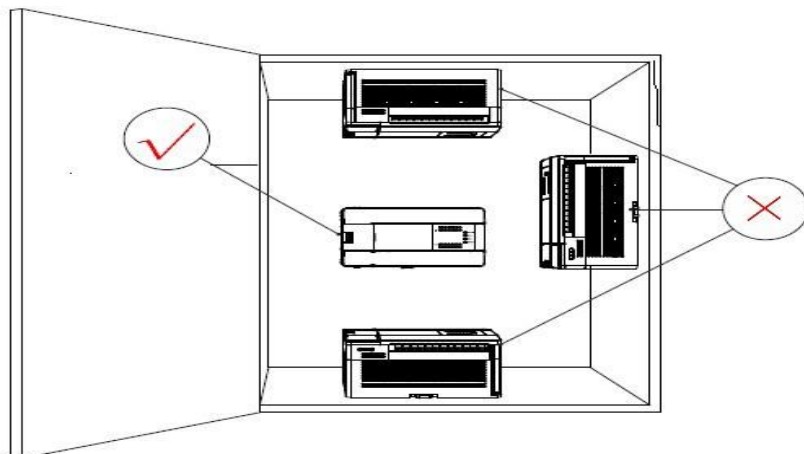

Figure 4-2
- To prevent temperature rise, do not install it on the ground, ceiling or vertical direction. Please install it horizontally on the back plate of the electrical cabinet as shown in Figure 4-2.
The PLC must be installed horizontally on the back panel of the electrical cabinet. When installed in the vertical direction, the distance between the PLC and the equipment or cabinet wall above and below should be no less than 15 cm. Installation in other directions is not conducive to the heat dissipation of the PLC itself and is not a suitable installation method. There should also be no heat-generating equipment under the PLC. See Figure 4-2.